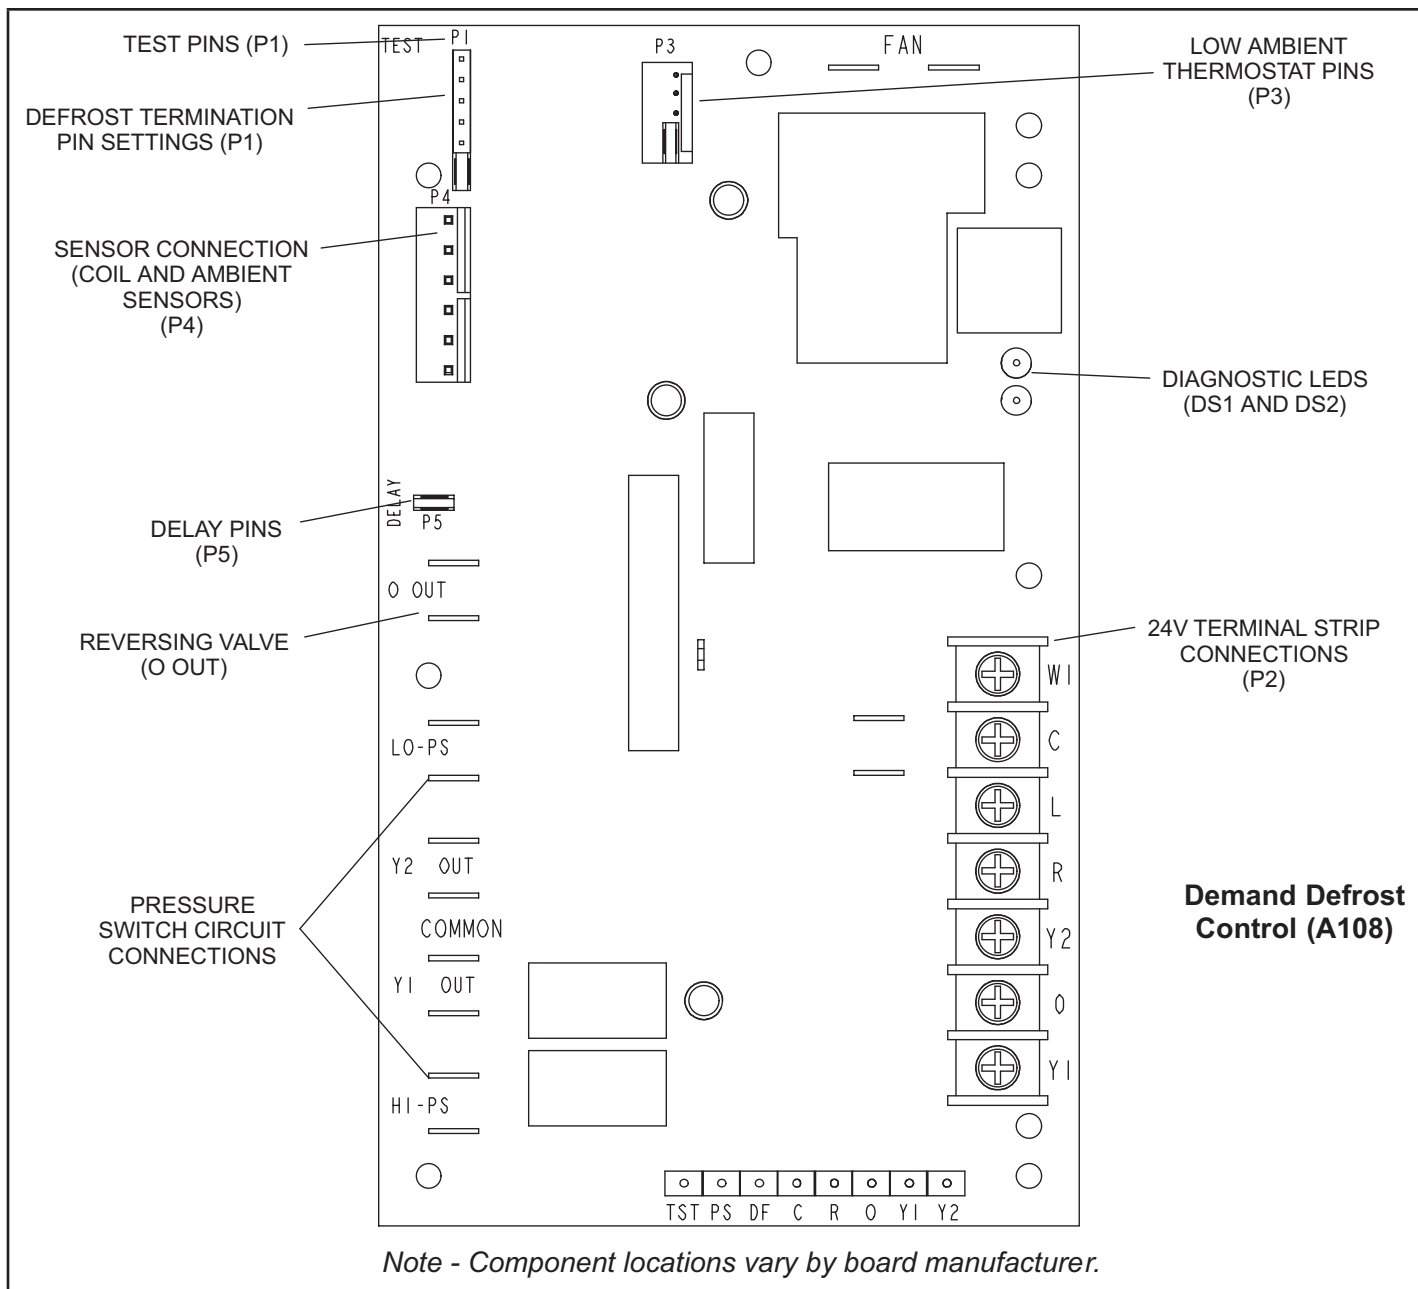

FIGURE 14. Demand Defrost Control (A108)
The demand defrost control measures differential temperatures to detect when the system is performing poorly because of ice build-up on the outdoor coil. The control *self-calibrates* when the defrost system starts and after each system defrost cycle. The demand defrost control components are shown in figure 14.
- Demand defrost control connections, jumpers and LED locations are shown in figure 14.